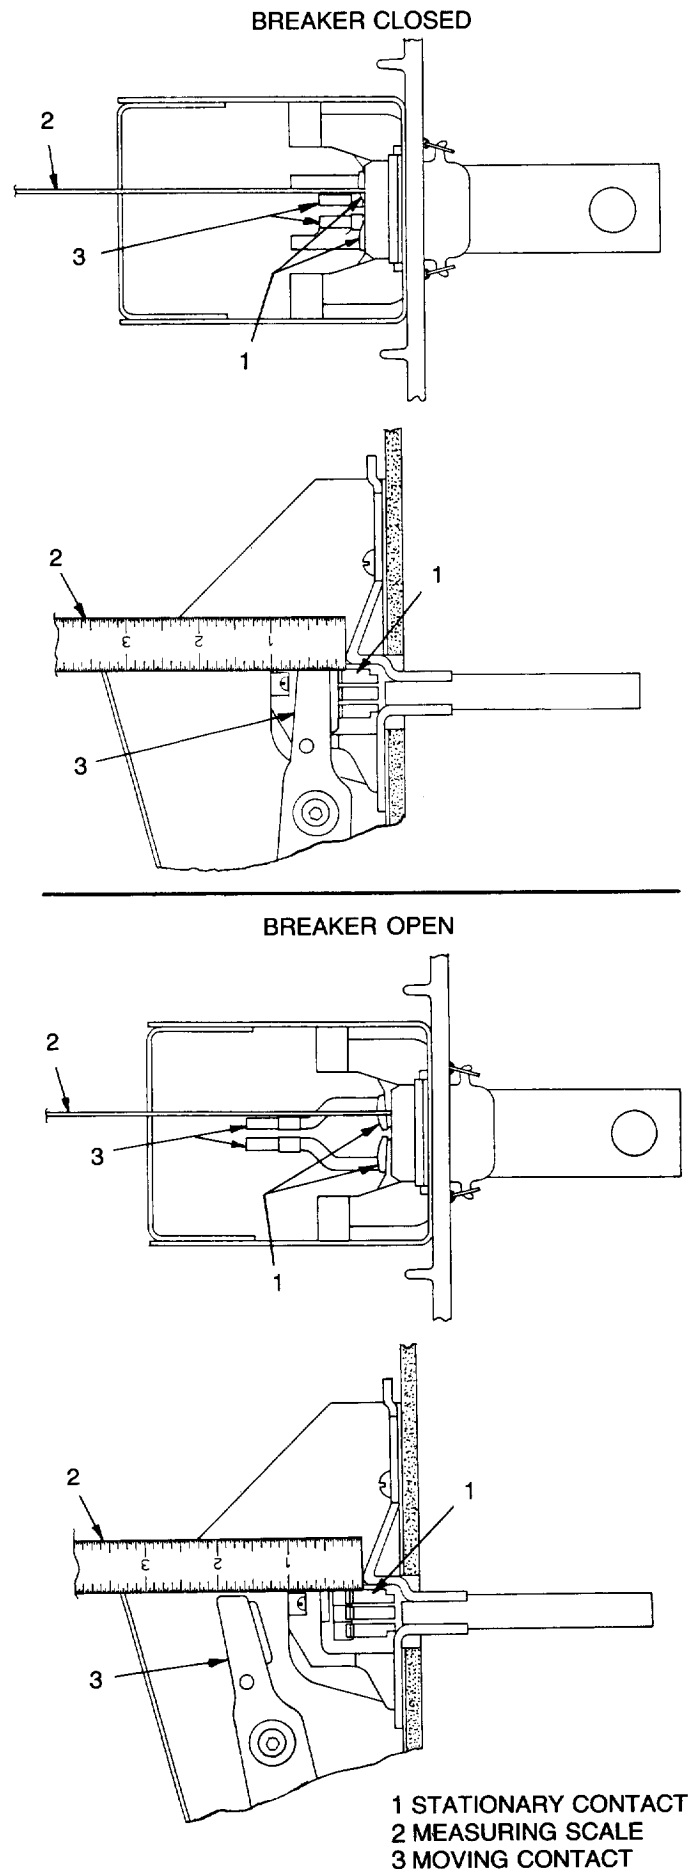

Figure 1.
4. Remove all three (3) arc quenchers by lifting the individual pieces up vertically.
5. Locate and identify the stationary upper terminal contact assembly. There are three pairs (six (6) total) of spring-loaded contacts on the outer end of the contact assembly. When contacted by the moving contact assembly on a closing operation, the contacts pivot inwards. The distance they move inwardly is the "contact depression" that must be measured and set. To measure and set "contact depression" on the stationary contacts, proceed as follows:
- a. With the breaker in the **OPEN** position and the arc quenchers removed as described, locate a point of reference on each top contact of terminal assembly. A convenient point of reference is the steel arc runner located just above the stationary contacts and extending vertically for about two inches (2"). Place a scale, with divisions at least as small as $\frac{1}{32}$ ", on top of the stationary contacts, butted against the steel runner and extending forward, adjacent and parallel to the plane of the moving contacts. Refer to Figure 1 when setting up to make this point of reference.
- b. Once the point of reference has been satisfactorily determined and the scale is in place, measure the distance from the end of the scale to the vertical surface of the stationary contact. Again, see Figure 1. This measurement should be about $\frac{3}{16}$ " to $\frac{5}{32}$ ". Record this initial measurement for each individual pole assembly. Remove the scale from the vicinity of the contacts.